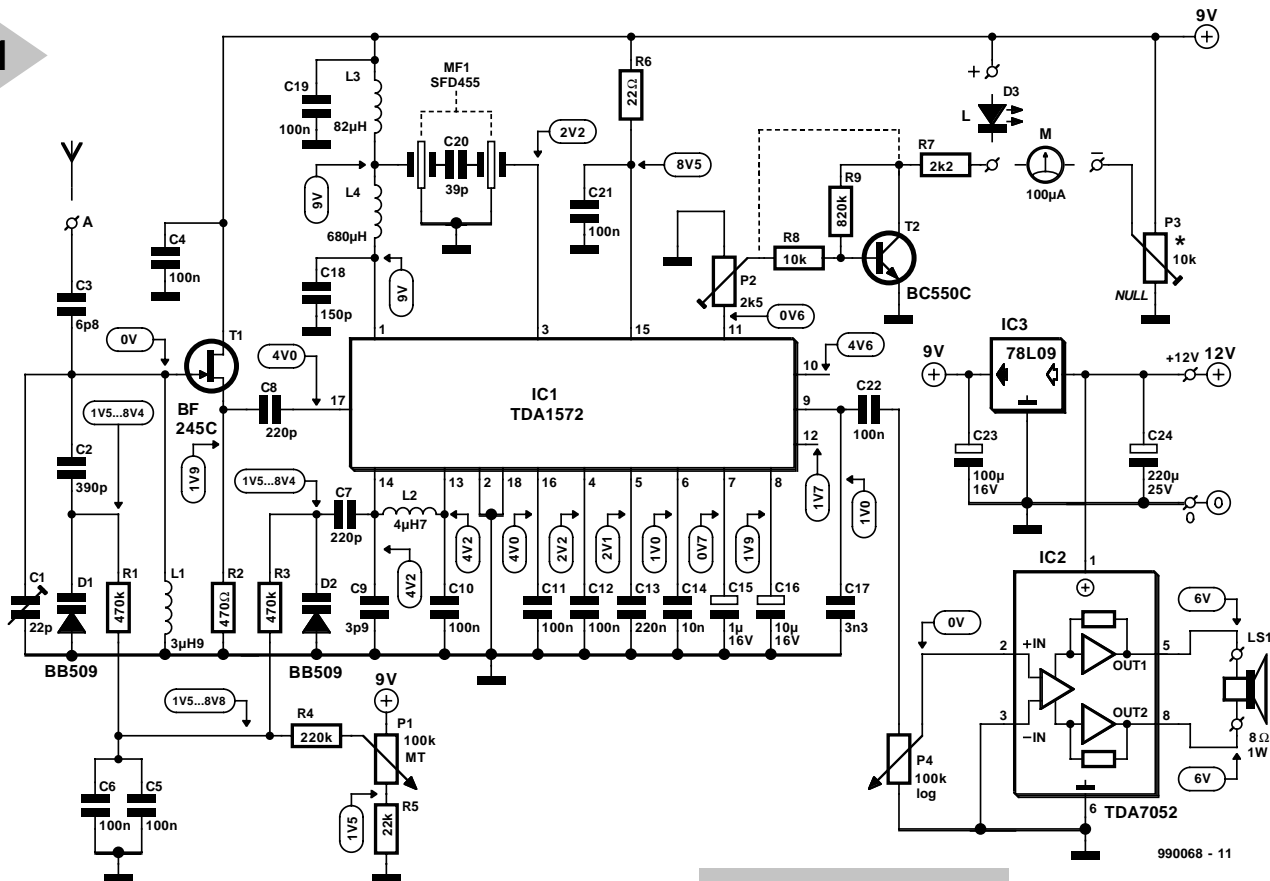

Figure 1. The circuit is based essentially on a Type TDA1572 integrated AM receiver.
The receiver is based on just two integrated circuits (ICs). One of these, IC2 in the circuit diagram in Figure 1, is a tiny audio-frequency (AF) amplifier that boosts the demodulated signal to an output power of about one watt. The other, IC1, a Philips Type TDA1572, is the circuit on which the radio-frequency (RF) operation is based. In fact, it is a complete integrated AM receiver, containing an RF amplifier, mixer, oscillator, IF amplifier, automatic gain control (AGC) and an AM demodulator.